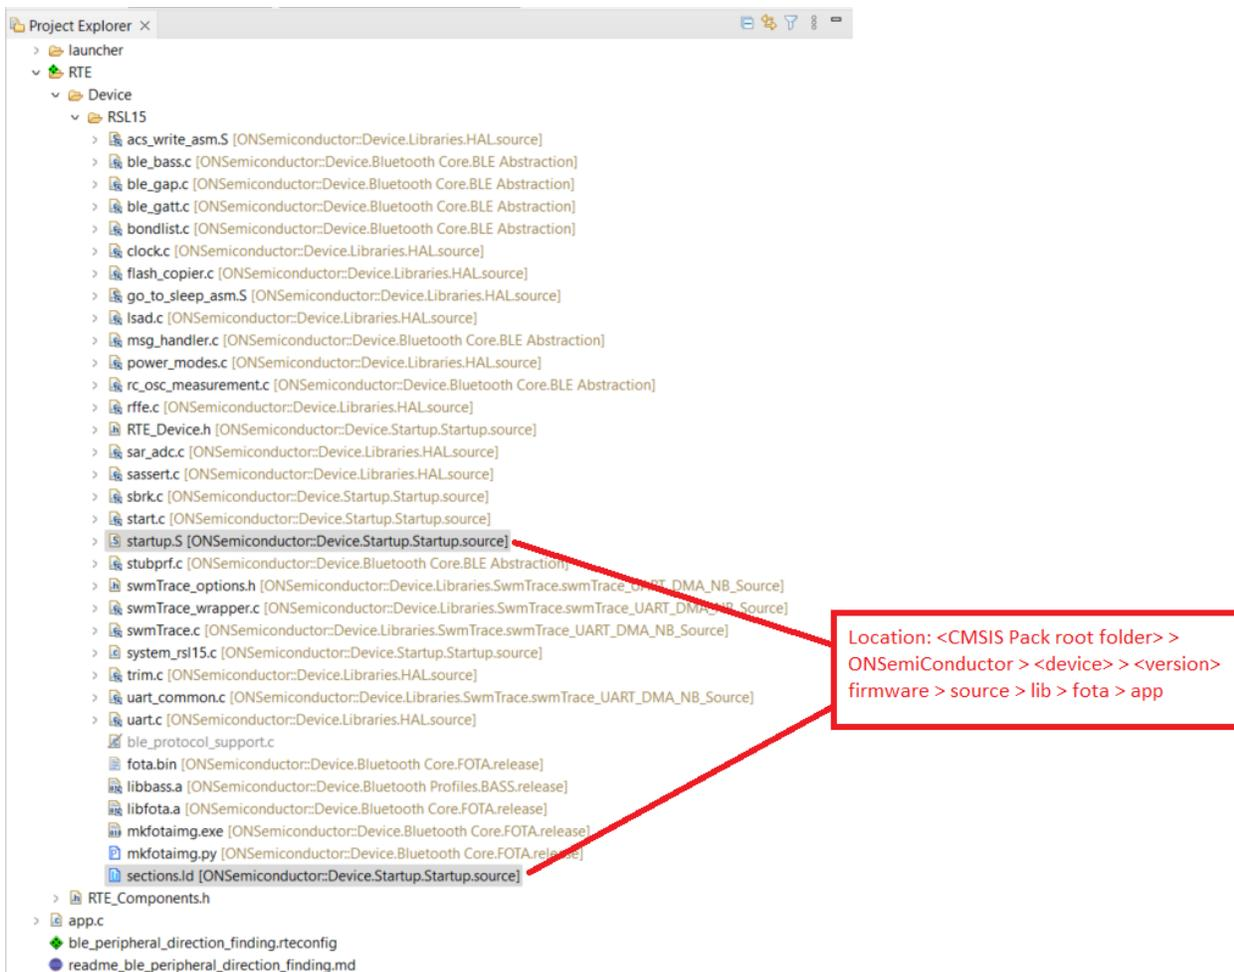

Figure 17. Replacing the sections.ld and startup.S Files
6. Replace your linker script `sections.ld` file with the one that contains the FOTA placement, and also replace your `startup.S` file, as shown in the "Replacing the sections.ld and startup.S Files" figure (Figure 17). The new linker script and `startup.S` file can be copied from `ble_peripheral_server_fota`, or directly from the CMSIS-Pack root folder as follows: